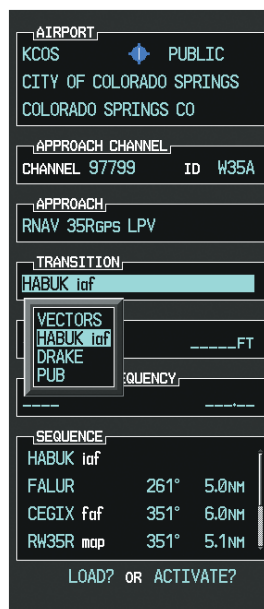

Figure 5-124 List of Available Transitions
e) Press the **ENT** Key. A list of available transitions for the selected approach is displayed as in Figure 5-124.